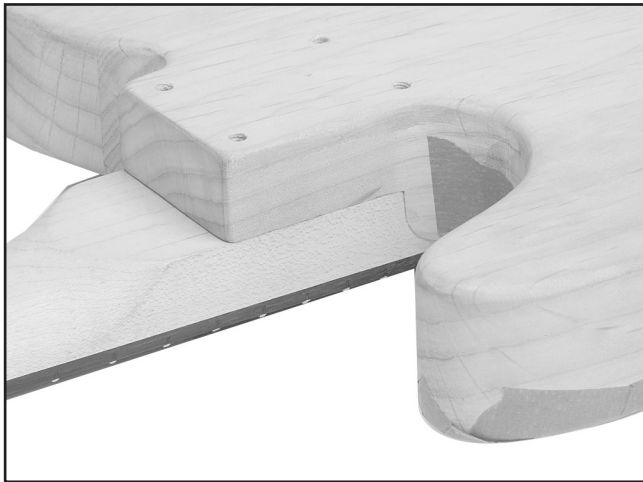

Figure 7. Making neck and body flush.
1. Insert the neck into the neck pocket, and check to make sure the neck and body are flush as shown in **Figure 7**.